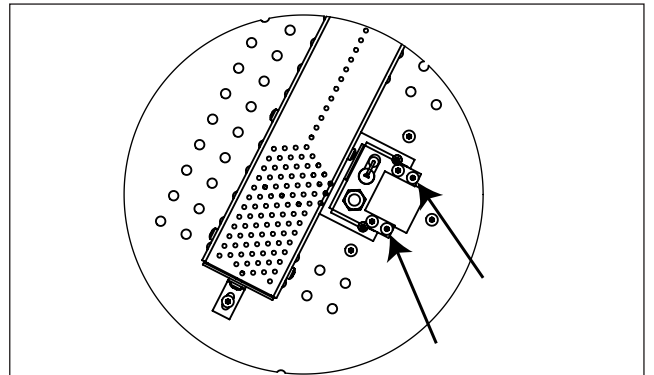

Figure 9: Pilot Mount Removal
- b. Remove the two (2) T-20 screws securing the pilot plate to media tray (See Figure 9).
- 5 Remove the two (2) T-20 screws securing the pilot plate to the media tray (see Figure 9).